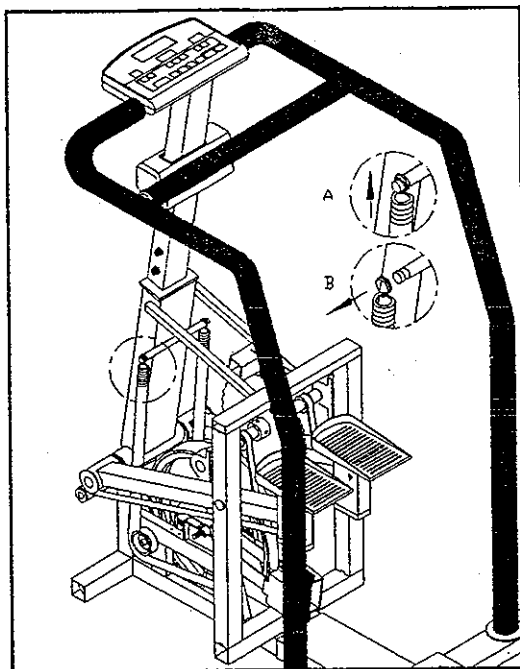

Fig. 8
7. Raise up the left spring and release it; follow steps A and B (see Fig. 8).